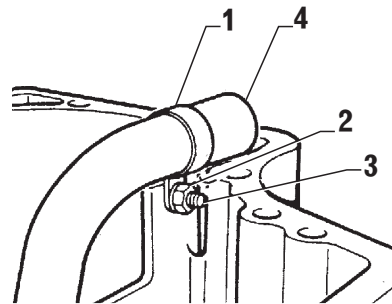

FIG. 4-2a
- Position oil suction pipe (item 4, fig. 4-2a) in the housing.
- Lightly tighten the screw (item 3, fig. 4-2a).